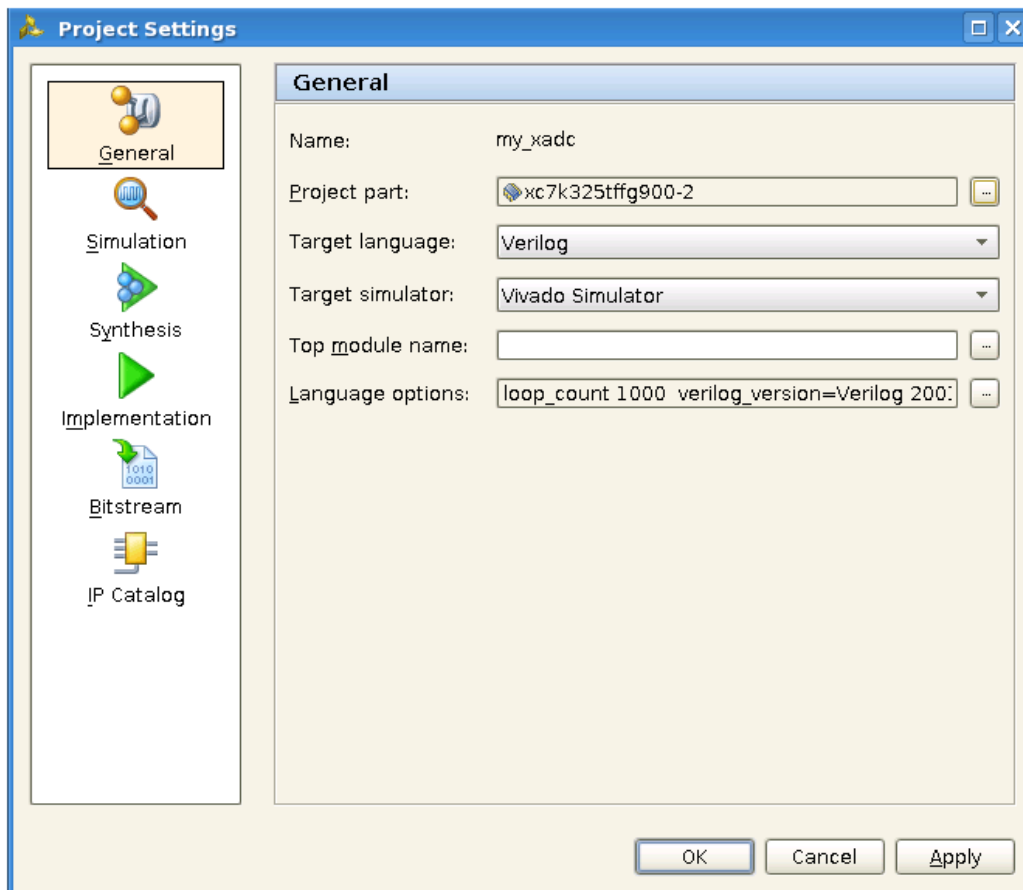

Figure 3-2: Target Architecture Setting
4. Select an appropriate package from the Package list. This example uses the XC7K235T device (see Figure 3-2).